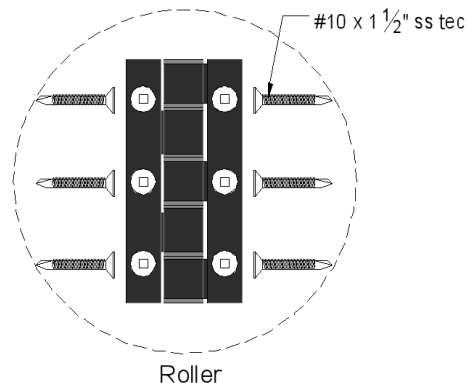

FIG 6.
- d) Attach the top and bottom rollers to the panel (make sure rollers are set to the correct dimension as per page 4 FIG 4.) using screws provided (See FIG 6.). Make sure that the roller hinges are set 2 3/8" (60mm) from the bottom of the panel and 2 3/8" (60mm) from the top of the panel.